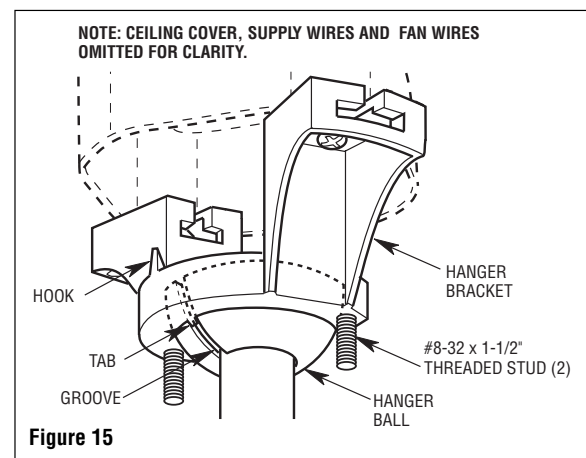

Figure 15
9. Screw the two 1-1/4" threaded studs (supplied) into the tapped holes in the hanger bracket (Figure 15).
10. Carefully lift the fan assembly and seat the hanger ball in the hanger bracket (Figure 15). The tab on the hanger bracket must seat in the groove in the hanger ball.